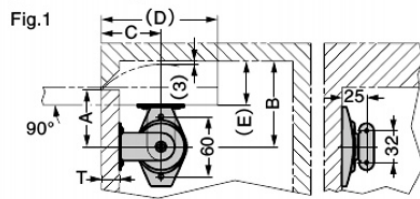

Fig.2
- Chamfer edge of top board to reduce the gap between the door and top board by referring to Fig.2 and Table 2 (recommended).